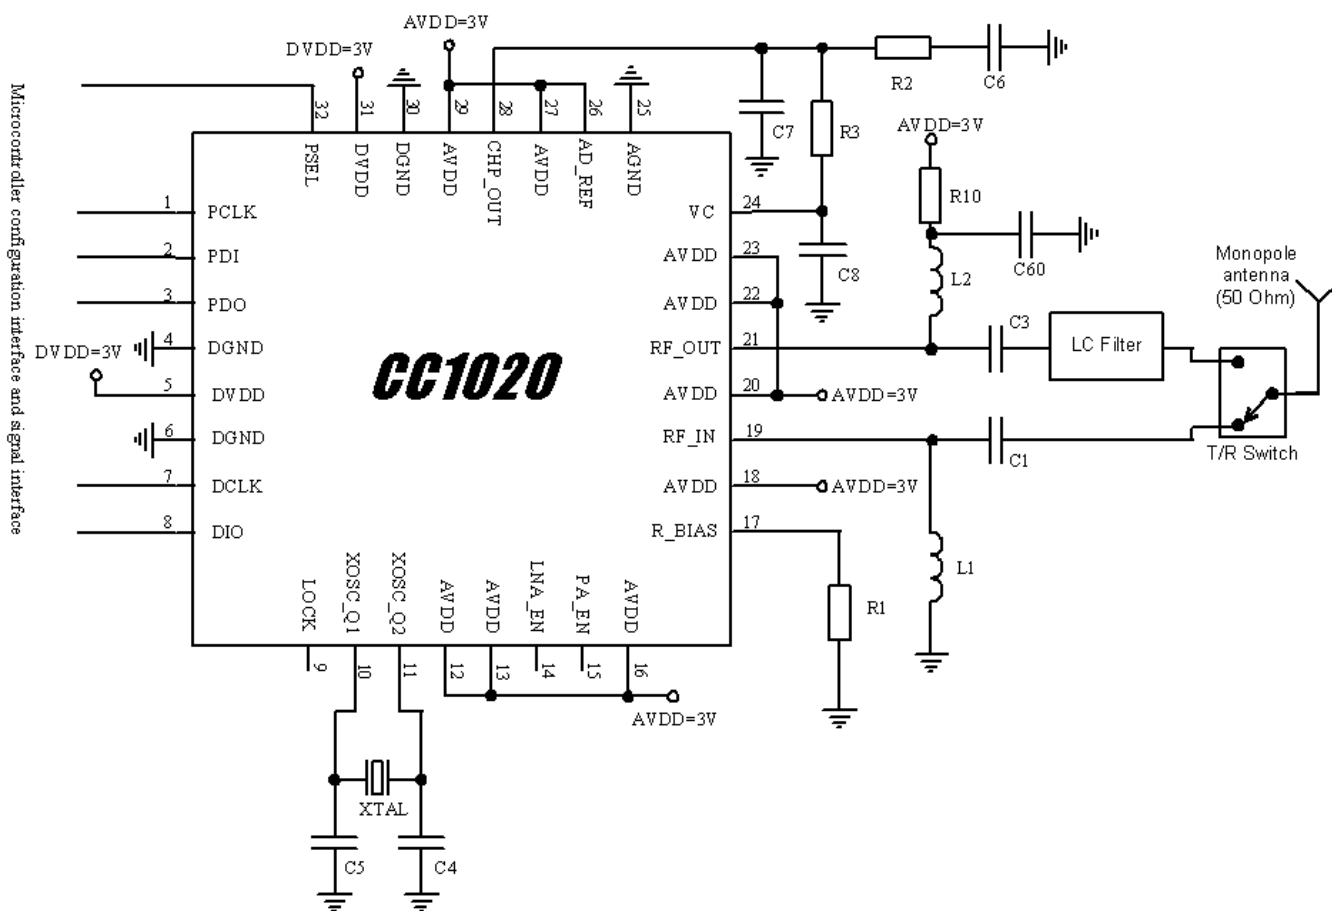
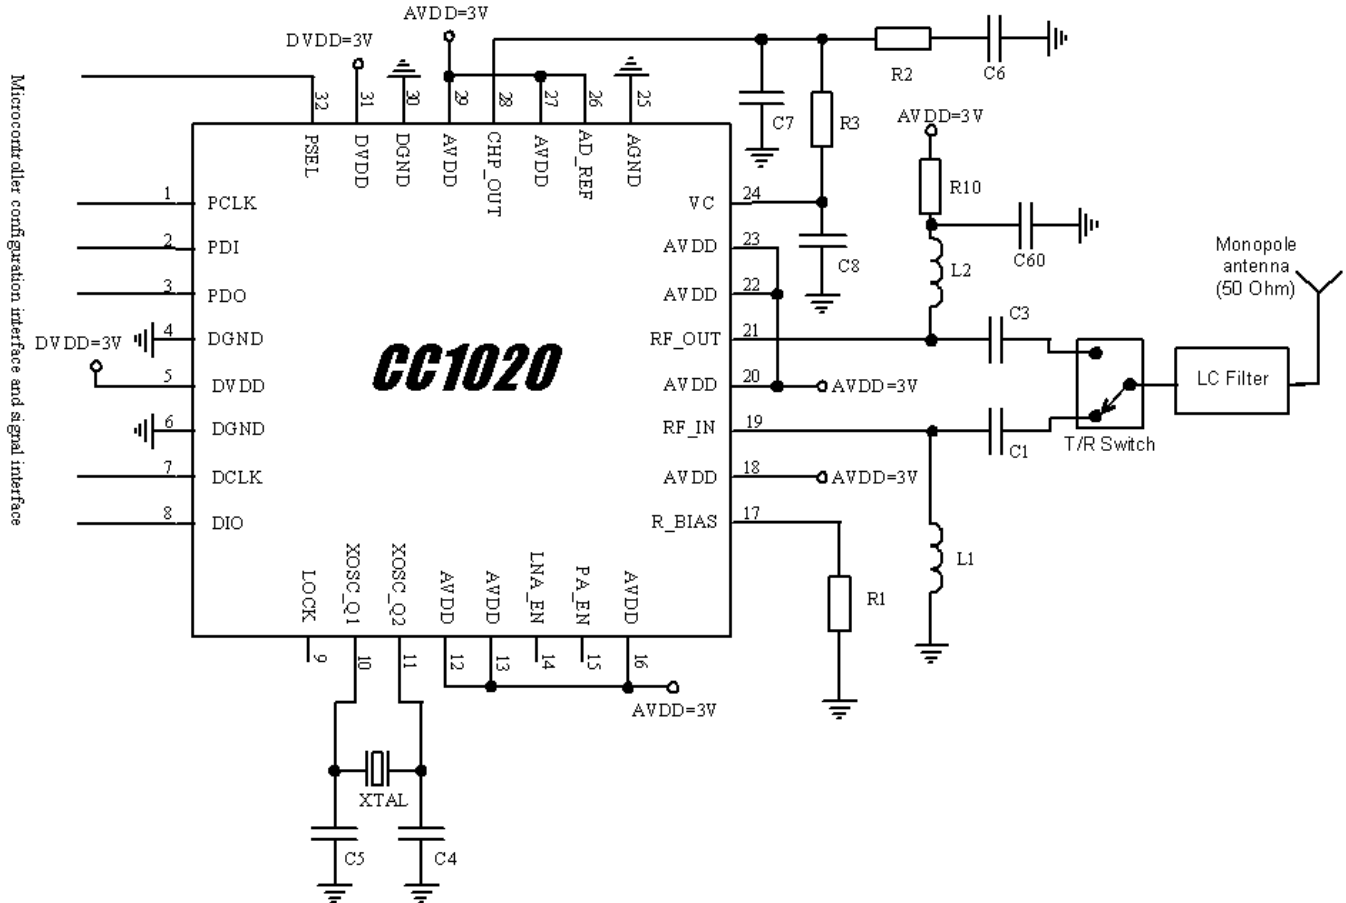

Figure 6-1. Typical Application and Test Circuit (Power Supply Decoupling Not Shown)
Figure 6-2. Alternative Application Circuit (Power Supply Decoupling Not Shown)
Very few external components are required for the operation of the CC1020 device. The recommended application circuit is shown in Figure 6-1. The external components are described in Table 6-1 and values are given in Table 6-2.
**Table 6-2. Bill of Materials for the Application Circuit In Figure 6-1 (1)(2)**
The LC filter in Figure 6-1 is inserted in the TX path only. The filter will reduce the emission of harmonics and the spurious emissions in the TX path. An alternative is to insert the LC filter between the antenna and the T/R switch as shown in Figure 6-2.